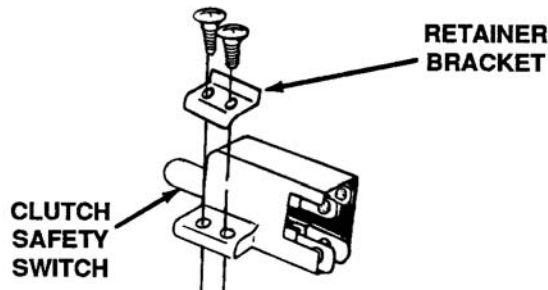

Figure 3-5. Retainer Bracket
1. The clutch safety switch has a retainer bracket for added support. This will retrofit 1990 production units. See Figure 3-5.